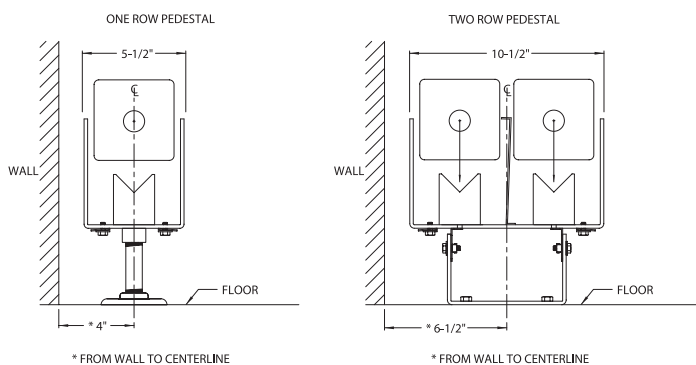

FIGURE P-3
- (3) Place the heating element on the pedestal. Before connecting the piping to the system, be sure to purge the system to insure against heating element blockage. Care must also be taken to prevent debris from entering the system when making the piping connections. (FIGURE P-3)